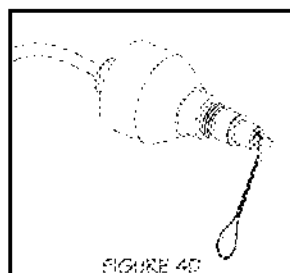

FIGURE 4D
3. Once the sensor is free from the reactor chamber, clean the quartz window with a commercial scale remover (CLR or Lime-A-Way) and a lint free cotton swab (Figure 4D). Follow all manufacturer's instructions regarding the cleaning fluid used. Do not use an abrasive cleaner on the sensor window. Scratching of the sensor window will void any manufacturer's warranty on this item.